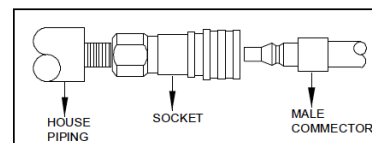

FIG. 04
- 5) Connect the NG hose assembly to fixed NG piping system. (FIG. 04) Turn on gas supply and do the leak testing as the procedures shown on page 26 of main manual. Read all lighting instructions on main manual prior to lighting.